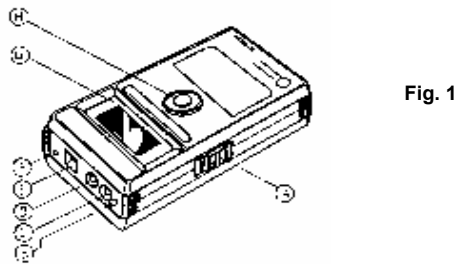
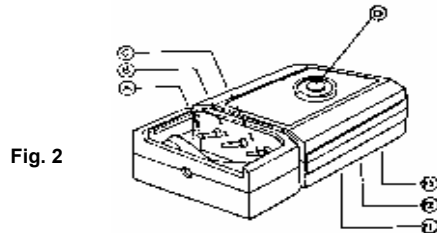

Fig. 1
Fig. 2
The GOLDILUX series of ultraviolet meters consists of a number of different models of UV-A, UV-B and UV-C meters (with built-in detector and display, Fig. 1) and a series of external probes (with built-in detector, but without display, Fig. 2). The external probes can either be used in combination with any of these meters or together with a non-specific UV meter (without built-in detector, but with display). The non-specific UV (GUV-0L) meter can only be used in conjunction with an external probe and not by itself.
Avoid touching the detector (H in Fig. 1 or D in Fig. 2) as natural oils and acids from the skin may form a layer, which absorbs UV, or could etch and damage the surface. The detector can be cleaned with a soft clean cloth or tissue moistened with alcohol. Dry and polish lightly with a dry tissue.
- c) Adjust the meter with the calibration adjustment (F in Fig. 1) until it reads correctly.
- d) Seal the hole (F in Fig. 1) with a suitable calibration sticker.
- a) Plug the probe into the meter and set the probe's range factor selector switch (A in Fig. 2) to the lowest range factor.
Any external UV probe (e.g. UV-B) can be plugged into any model of UV meter (e.g. UV-A). In this case the UV detector in the meter is automatically disconnected and the displayed reading corresponds to the quantity measured by the probe (units as stated on the probe). External probes cover an even wider measuring range than the meters with a built-in detector as they have a built-in range selector switch (A in Fig. 2) to toggle
- b) With the cap firmly on the probe detector (D in Fig. 2) adjust the meter reading to zero via potentiometer P5 as indicated on the probe's rear panel label. For high-gain probes (probes with a range factor <1) this may only be possible to within  $\pm 5$  in the least significant digit.
Fig. 1 indicates the location and function of the various switches, connectors and other features of the UV meters, which are accessible externally. The same features for the external UV probes are shown in Fig. 2. The meter ON/OFF switch (A in Fig. 1) is located on the side of the meter housing and should be moved forward to switch on the meter.
The hold button (B in Fig. 1) can be used to "freeze" the display for convenient reading by the operator. The operation of this hold button can also be effected by using a remote hold cable plugged into the remote hold connector (C in Fig. 1).
The meters also provide an analog output (stereo socket D in Fig. 1), which supplies a 2V output for a full-scale reading. It has an output impedance of 10 k $\Omega$  and can be used to record UV levels on a chart recorder or any other suitable data acquisition system.